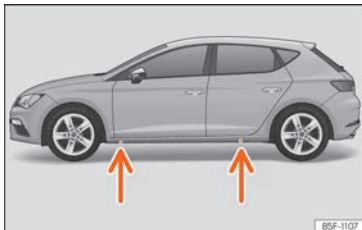

Fig. 40 Jack position points.
- Find the support point on the strut (sunken area) closest to the wheel to be changed »» Fig. 40.